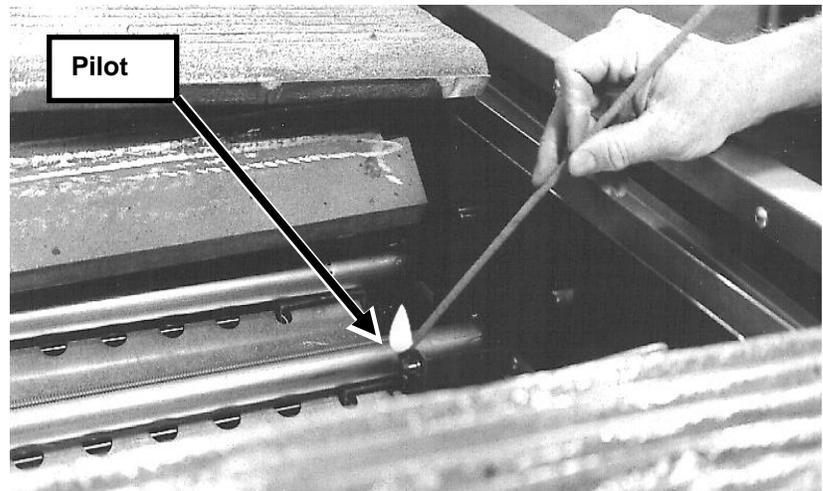

FIG. 6
2. Remove the top grates and radiants. Turn the main gas shut-off valve ON. Light pilots using a lit taper. See Fig. 6. Adjust the pilot valve screw until the pilot flame has a slight yellow tip.